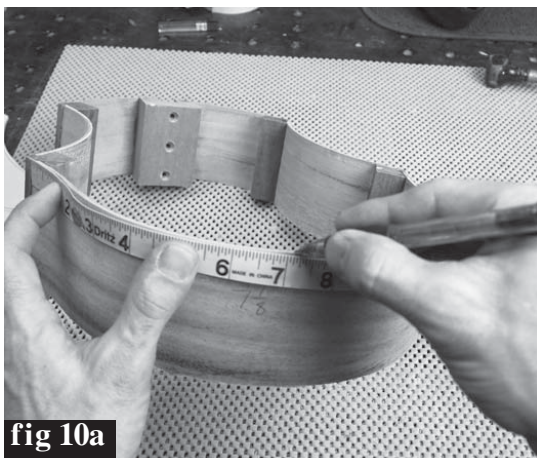
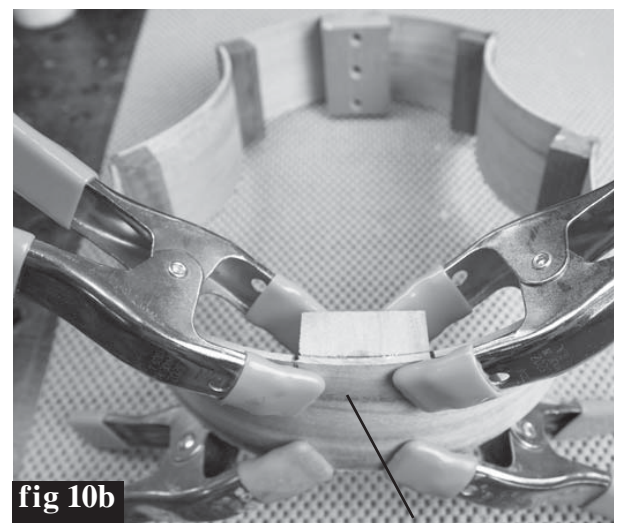

fig 10a
fig 10b
10. When dry enough to remove the last clamp, measure 7-3/8" from each end of the large curved rib and mark it for locating the tail block (fig. 10a). Please note that this may not look exactly centered at this point because the frame may be slightly skewed one way or the other. You'll straighten it in the next step. Glue and clamp the tail block in place as shown in fig 10b.